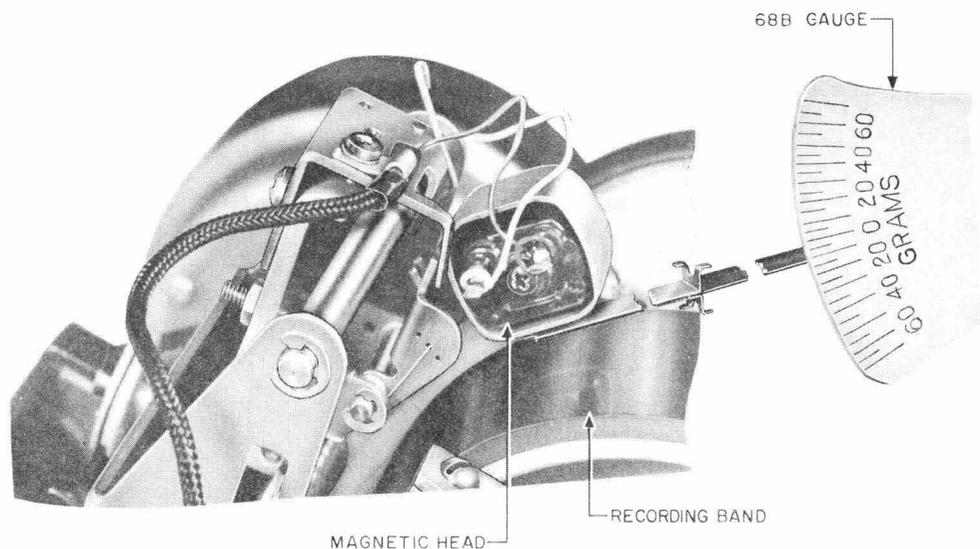

Fig. 13—Method of Gauging Magnetic Head Pressure
3.19 Magnetic Head Pressure: With the L1 solenoid electrically operated, the pressure of the magnetic head (Fig. 13) on the recording band shall be between a minimum of 28 grams and a maximum of 43 grams. Electrically operate the L1 solenoid. Insert the tip of the 68B gauge under the portion
of the magnetic head directly to one side of the pole piece, as shown in Fig. 13, and measure the pressure just as the magnetic head leaves the band.